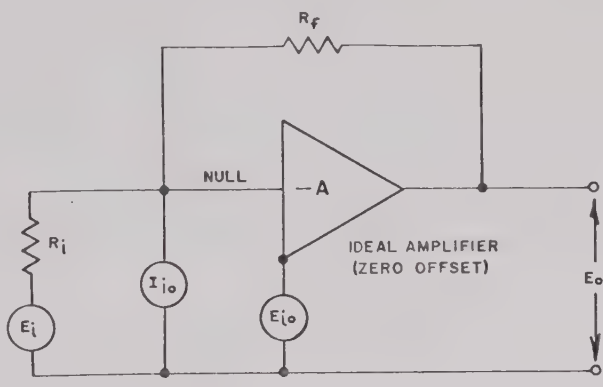

FIG. 4-3 AMPLIFIER WITH INPUT OFFSET SOURCES.
4-11 **AMPLIFIER OFFSETS.** In developing the ideal amplifier model, we tacitly assumed the null junction voltage and current to be zero causing the "ideal" equation (2) to be valid. In reality, however, nonidealities do exist at the null junction or input terminal of the amplifier. These errors are of the form of an offset voltage (E_{i0}) and an offset current (I_{i0}). The modified version of the amplifier model can be shown with these error sources as in FIG. 4-3.